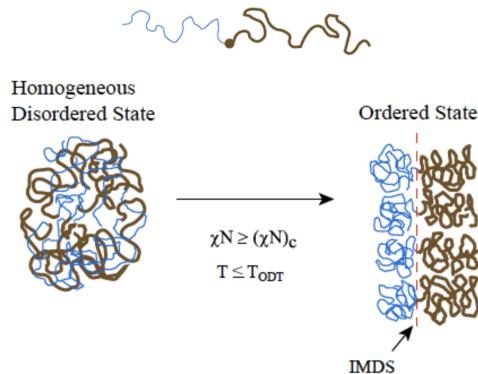

Figure 2.11: Ordering of a diblock copolymer.
- The subscript *c* in Figure 2.11 means "critical."